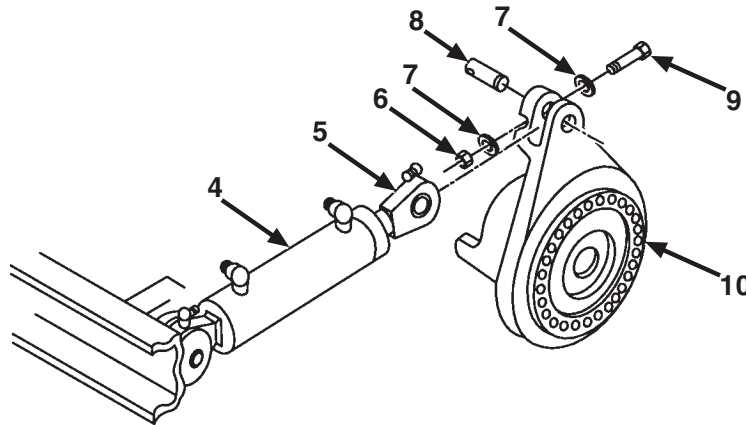

Figure 73. Final Drive Adjusting Flange.
Step 4 applies to Figure 73.
4. Connect rod end (item 5) of hydraulic track adjusting cylinder (item 4) to final drive adjusting flange (item 10) with pin (item 8), washer (item 7), screw (item 9), washer (item 7), and new locknut (item 6).